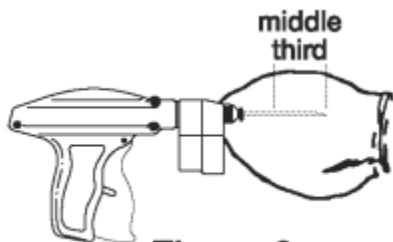

Figure 3
- Upon penetration, the needle should be fully inserted (Figure 3) between the skin and cartilage, avoiding major blood vessels. Full insertion of the needle is important to maximize implant retention.